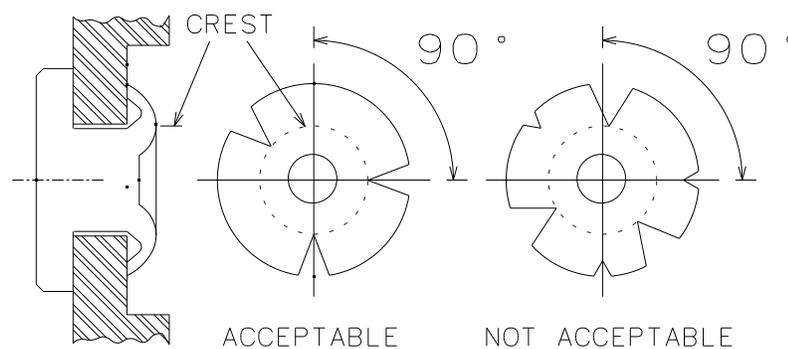

Figure 6 Pin installation acceptance criteria
- (b) Check to make sure that the attachment pins are tight and movement free with no distortion of parts. Refer to Figure 6 for pin installation acceptance criteria.